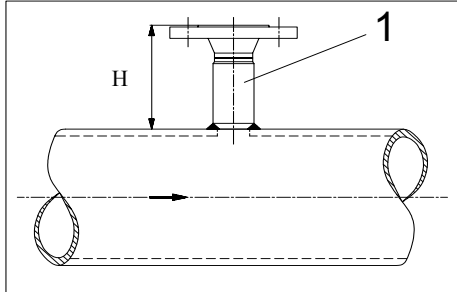

Fig. 9
It is particularly important to make sure that the distance from the gasket surface to the pipe agrees with the H-dimension you gave in your order (Fig.9).
4. Observe the H-dimension during the welding of the mounting stud (see also Fig. 9).